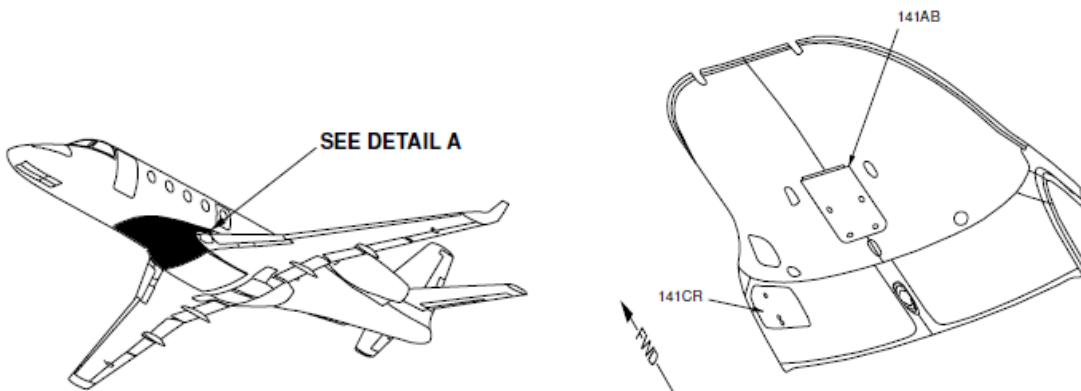

Figure 5: Control Box Location
The F/S Heat Controller (PA-200124-805) is mounted in the belly fairing near fuselage station (FS) 251 (Frame 25). The controller is mounted on the right side of the lower fuselage under the belly fairing. It is accessed by opening the emergency brake access door (141AB), (reference A in Figure 5).